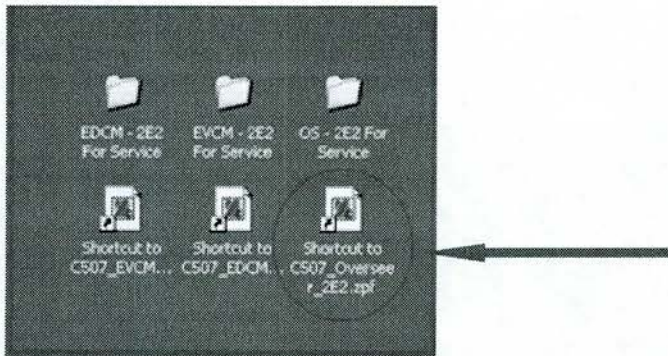

Figure 14
2.11. Double click on the "Overseer 2E2" shortcut (arrow Figure 14) on the computer's desktop to launch the calibration tool.